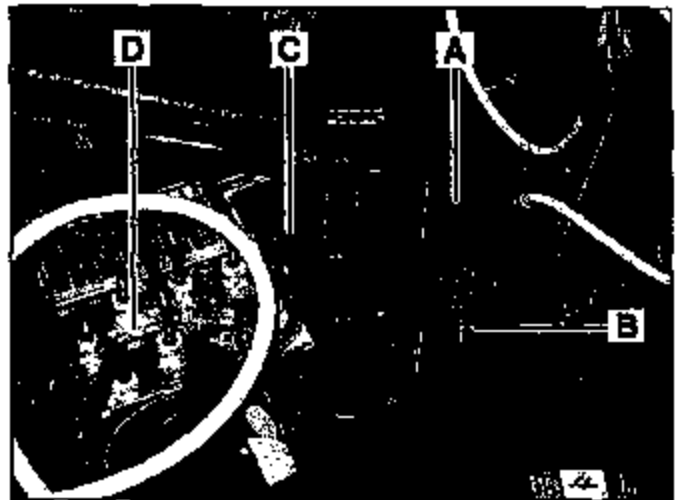

Figure 5
10. Connect and lock 15/47-pin adapter cable connector (A, Figure 5) to engine wiring harness connector (B).
11. Connect and lock 15/47-pin adapter cable connector (C, Figure 5) to SBC control module (D) connector.